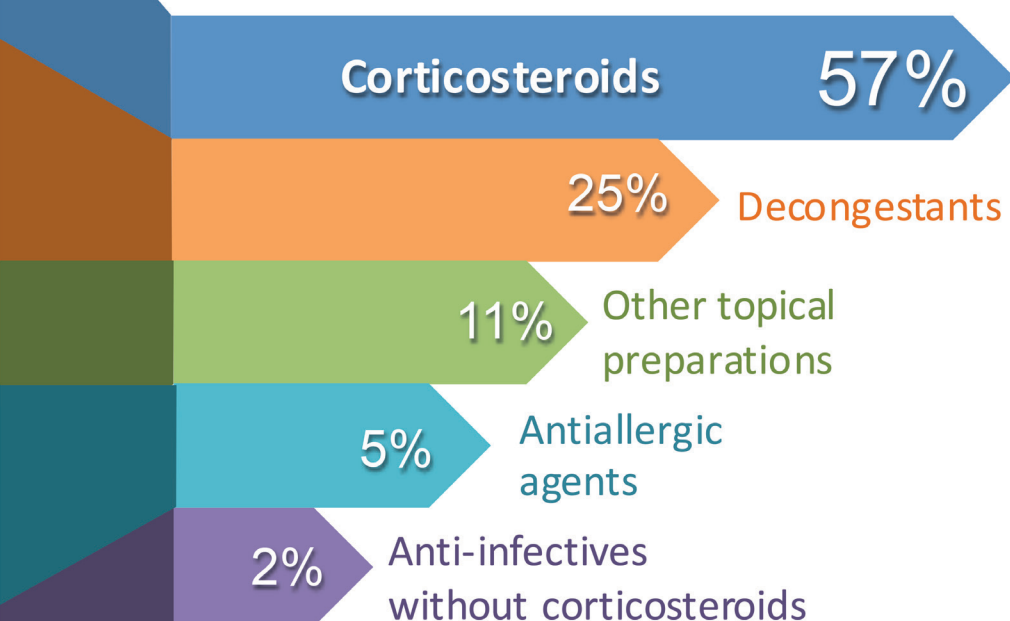

Figure 2: Worldwide intranasal market by drug type. (Source: IMS Health)
The topical nasal preparations market, as per the Anatomical Therapeutic Classification (ATC), is currently estimated at a value around US\$5 billion (£3.8 billion). Well over half of this market is for corticosteroids (Figure 2), due to the fact that they remain the frontline treatment for moderate to severe allergic rhinitis (AR) as the most effective option for relieving nasal